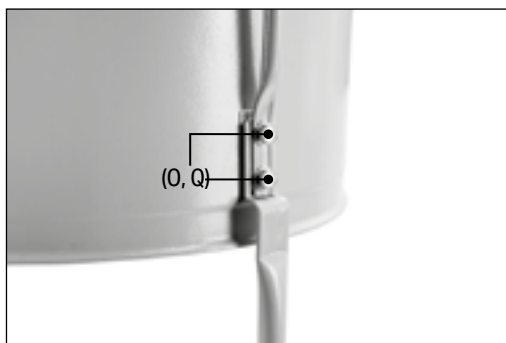

Fig. 9
- e. Pass two M8 x 16mm bolts (O) each through a washer (Q) and secure both support rods to the collection bag duct (Fig. 9).